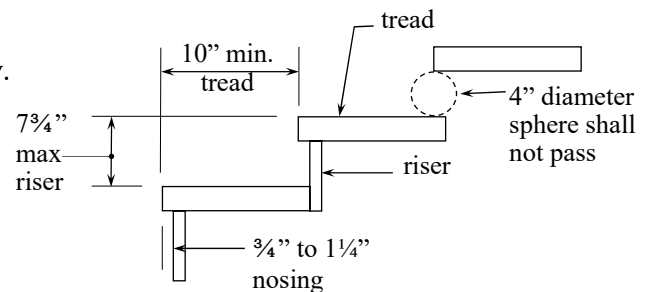

Figure 37: Treads and Risers
- Stair geometry and opening limitations shall meet the requirements shown in FIGURE 37. Treads, risers and nosing dimensions shall not deviate at each step by more than $\frac{3}{8}$ inches.